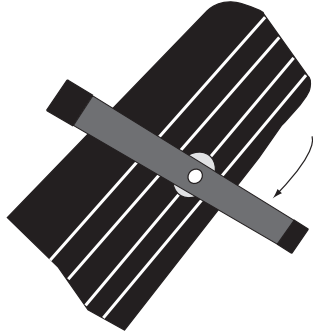

Figure 1
- ① Rotate legs (attached to bottom) until they are perpendicular to screen case (see Fig. 1).